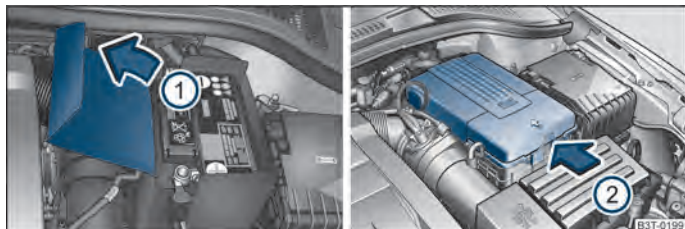

Fig. 176 Engine compartment: Polyester cover of the vehicle battery/plastic cover of the vehicle battery
The battery is located in the engine compartment in a polyester cover ⇒ fig. 176 - left or in a ⇒ fig. 176 plastic cover ⇒ fig. 105 right - in the left side of the luggage compartment.
- Open the battery cover in direction of arrow ① or press the interlock on the side of the battery cover in direction of arrow ② ⇒ fig. 176, fold the cover up and remove the battery.
The edge of the polyester battery cover ⇒ fig. 176 - left is inserted between the battery and the side wall of the battery cover when working on the battery.